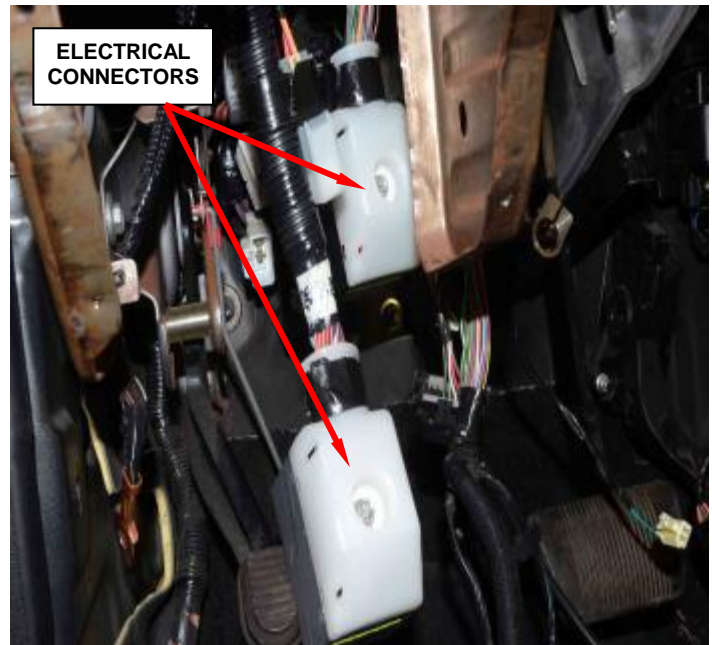

Figure 94 – Electrical Connectors
19. Loosen the screws and disconnect the electrical connectors (Figure 94).